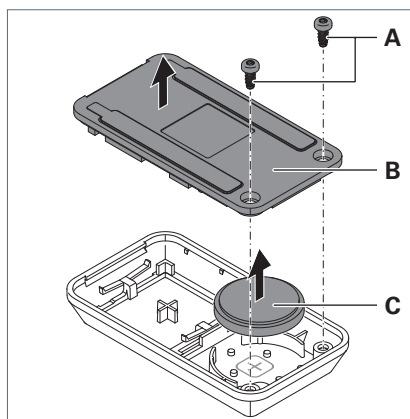

Fig. 41: Battery replacement.
- ▶ Unscrew the screws **A** from the rear panel **B** of the control element, see Fig. 41.